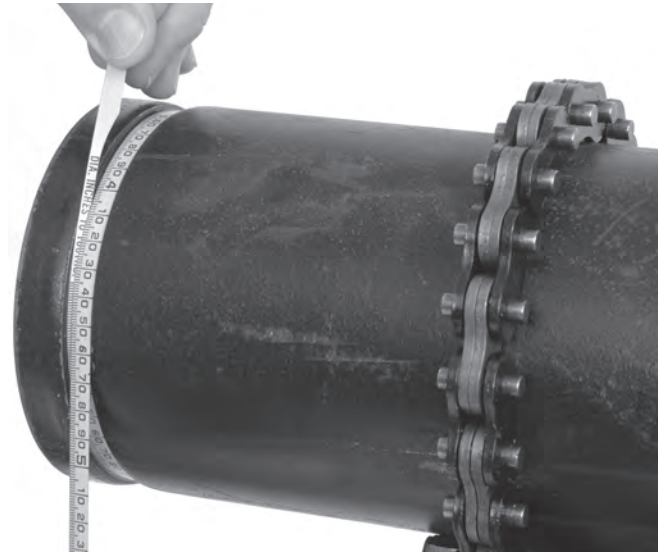

Figure 11 – Checking Groove Diameter With A Diameter Tape
6. Measure the groove diameter. The best method for measuring groove diameter is the use of a diameter tape (*see Optional Equipment Section*). Snugly wrap the diameter tape around the pipe in the groove. Make sure that the tape sits flat in the bottom of the groove, and read the groove diameter. (*See Figure 11.*)